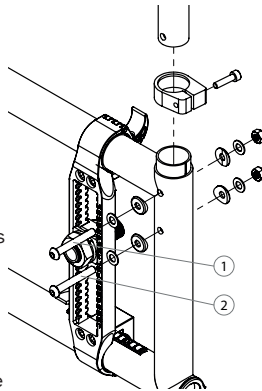

Fig. 11
- Loosen the top bolts (1) (Fig. 11) and (2), which are also used to support the armrest socket (Swing Away and Flip Back armrest).
- Tighten bolts (1) and (2) firmly.
- Wheelchairs equipped with Flip Back armrests; tighten screw (1) while paying special attention to the force needed to flip back the armrest.